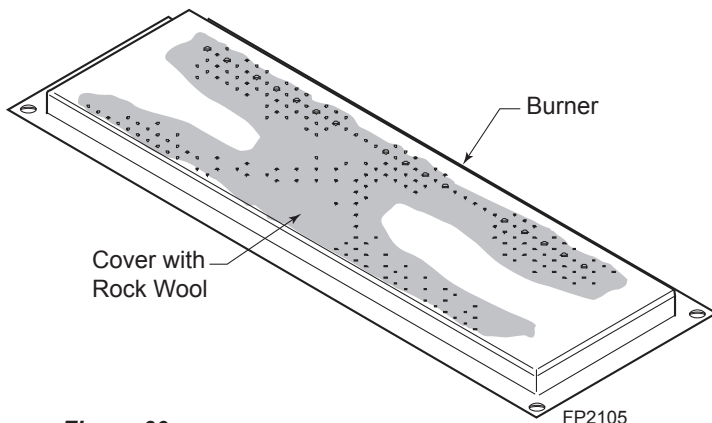

Figure 60 - Placement of Rock Wool on Burner
2. Distribute one layer of rock wool to cover the burner. *Figure 60*